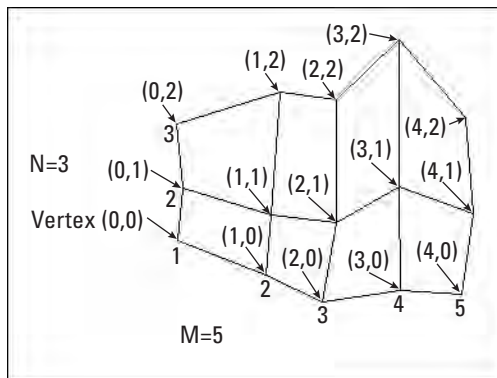

Figure 23-13: A 3D Mesh with an M size of 5 and an N size of 3, showing the vertex designations
To use 3DMESH, choose 3D Mesh from the Surfaces toolbar. AutoCAD then asks you for the Mesh M size and Mesh N size. M is the number of vertices going in the first direction. N is the number of vertices going in the other direction. Figure 23-13 shows a 3D Mesh with an M size of 5 and an N size of 3.
After you set the size of the 3D Mesh, you need to specify each vertex. For example, the 3D Mesh in Figure 23-13 has 15 vertices that you need to specify. AutoCAD prompts you for each vertex in order, starting with (0,0). Vertex (0,1) is the second vertex in the first column. Vertex (1,0) is the first vertex in the second column, starting from the bottom. It's a little confusing because AutoCAD starts the counting from zero (0), not 1. For the 3D Mesh in Figure 23-13, the last vertex is (4,2).
In Figure 23-13, the 3D Mesh is five vertices wide and three vertices high as you look at it in plan view. However, you do not have to specify the vertices in the same direction. For the 3D mesh in the figure, I started at the bottom left, continued to move up for (0,1) and (0,2), then moved to the right. However, you could start at the bottom left and move to the right for (0,1) and (0,2), and then go back to the left either above or below (0,0) – resulting in a 3D mesh that is three vertices wide and five vertices high as you look at it in plan view. In other words, M and N can be in any direction.